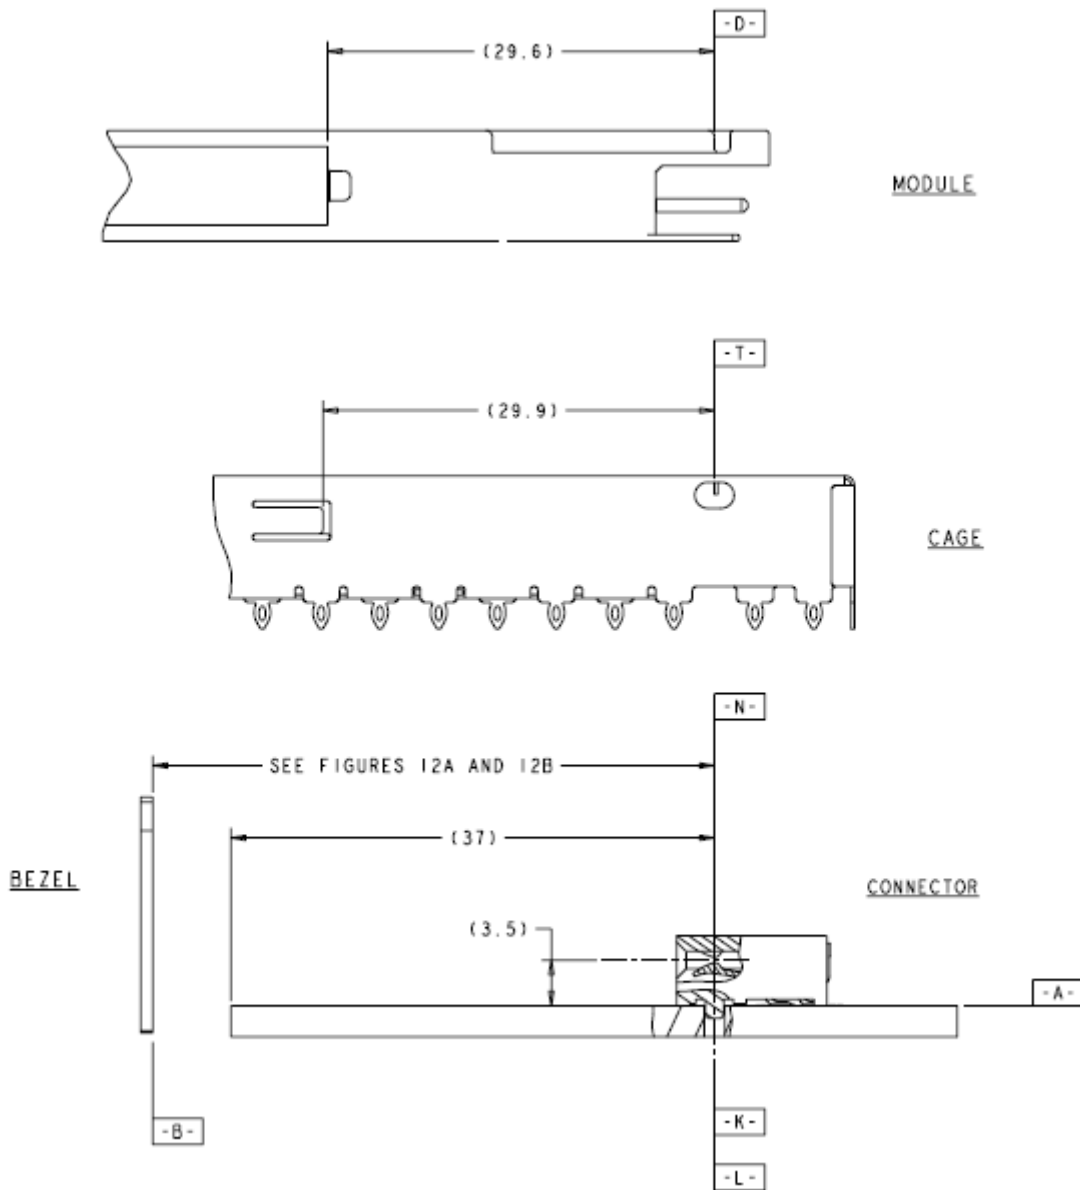

Figure 6 - QSFP+ Datum Alignment, Depth
A listing of the datums for the various components is contained in Table 8. The alignments of some of the datums are noted. The relationship of the Module, Cage, and Connector relative to the Host Board and Bezel is illustrated in Figure 6 by the location of the key datums of each of the components. In order to reduce the complexity of the drawings, all dimensions are considered centered unless otherwise specified.
*Datums D, K, L, N and T are aligned when assembled (see figure 6)